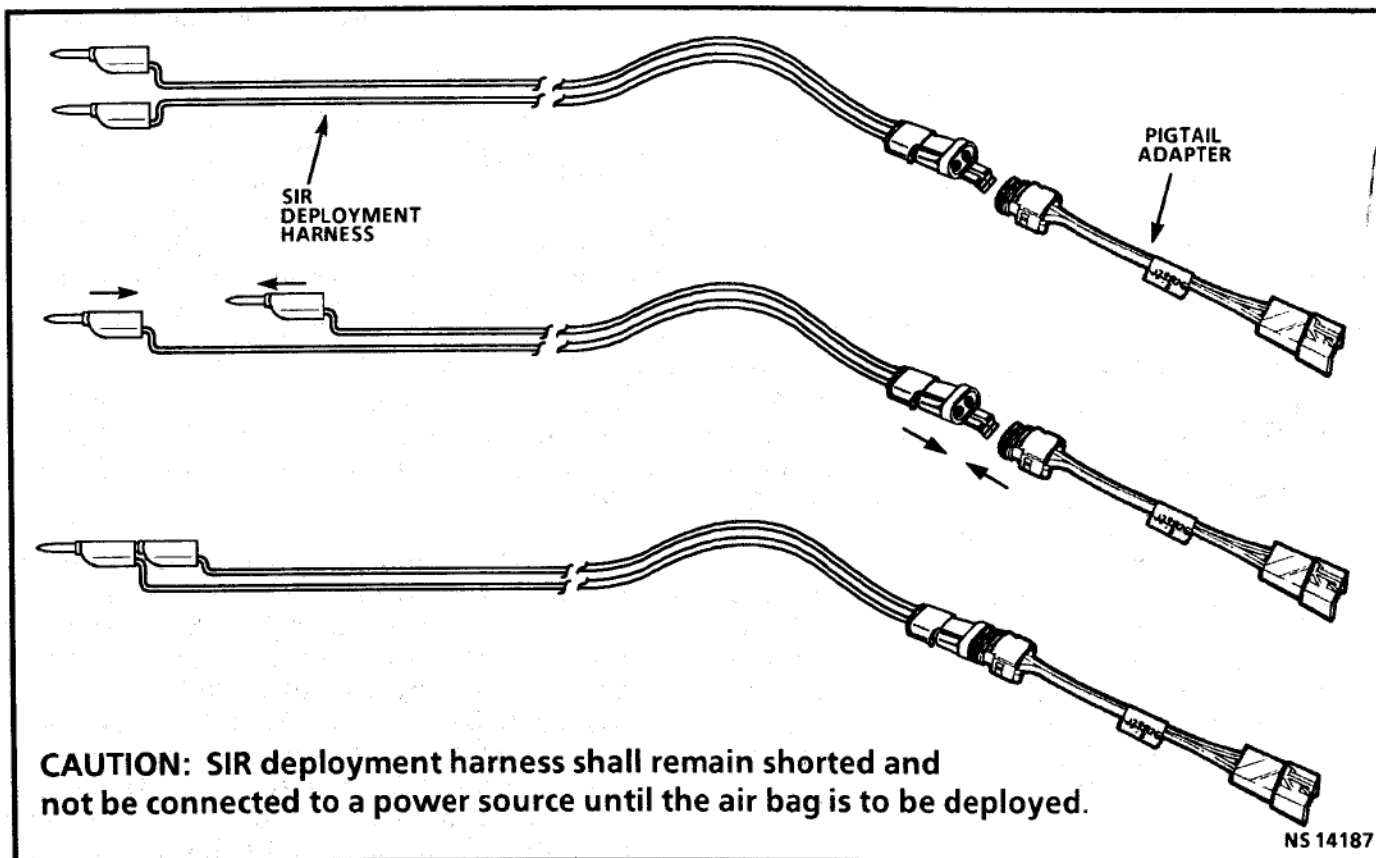

Figure 16 - Shorting the SIR Deployment Harness Wires
Deployment Outside Vehicle (Driver Inflator Module) Figures 16 through 23
3. Short the two SIR deployment harness leads together by fully seating one banana plug into the other. SIR deployment harness shall remain shorted and not be connected to a power source until the air bag is to be deployed (Figure 16).
4. Connect the appropriate pigtail adapter to the SIR deployment harness (Figure 16).
20. Short the two SIR deployment harness leads together by fully seating one banana plug into the other (Figure 16).
26. Ensure that the SIR deployment harness has been disconnected from the power source and that its two banana plugs have been shorted together by fully seating one banana plug into the other (Figure 16).